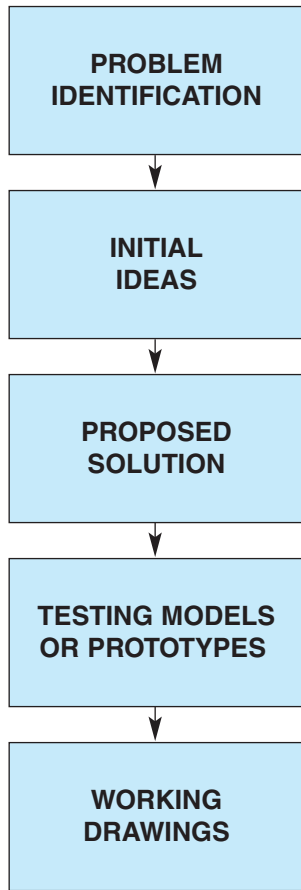

FIGURE 17 The design process (manual).
(1) identification of the problem or need, (2) development of initial ideas for solving the problem, (3) selection of a proposed solution, (4) development and testing of models or prototypes, and development of working drawings (Figure 17).